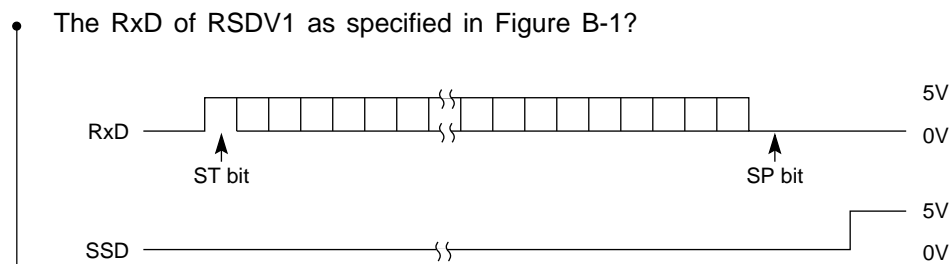

Figure B-1
- ② In receiving by serial interface, printing data is omitted or printing operation is not performed.
- Are RxD and SSD of RSDV1, RSDV2 as specified in Figure B-1?